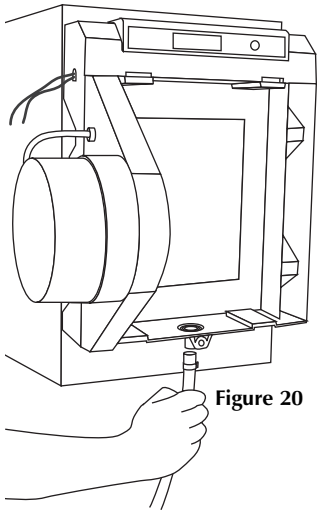

Figure 20
- YOU MUST RUN A DRAINAGE TUBE FROM THIS UNIT.** Select a convenient location for running the 1/4" drainage tube, 15 ft supplied. Before you connect the tubing to the drain fitting on the bottom of the unit, slip the 1/4" hose clamp (supplied) over the tubing (fig 20). Push the tubing over the fitting and secure in place with the hose clamp. **CAUTION:** Drain tubing must not kink or come into contact with sharp edges or hot surfaces.